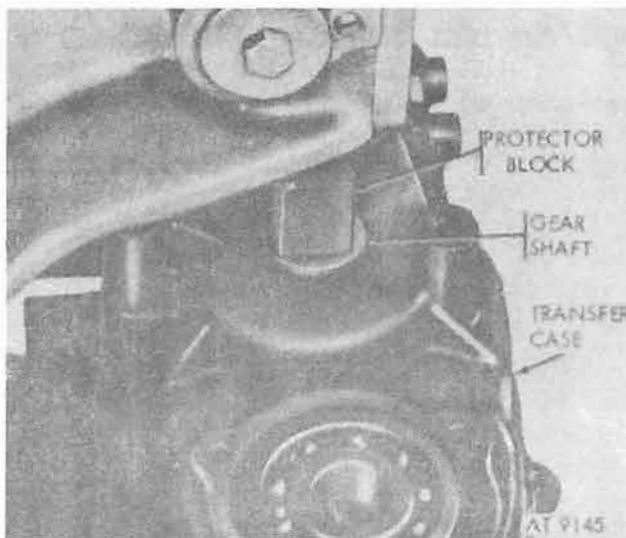
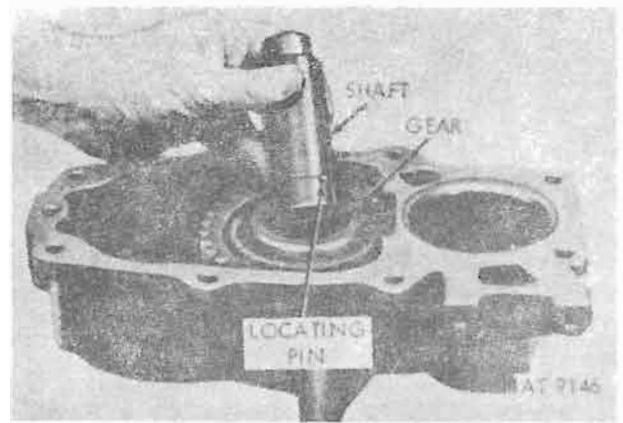
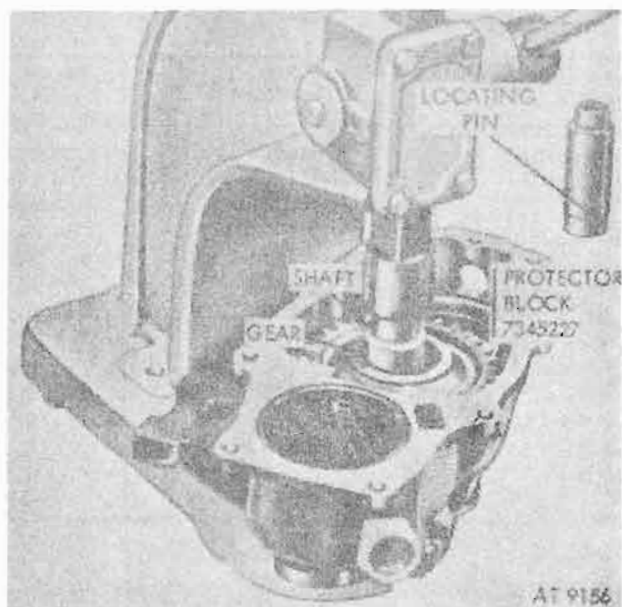

Figure 8-12. Pressing intermediate gear shaft from transfer case.
Figure 8-13. Intermediate shaft and gear.
Figure 8-23. Pressing intermediate gear shaft in position.
m. Press transfer intermediate gear shaft from case (fig. 8-12) and remove transfer intermediate shaft and gear from case (fig. 8-13).
b. Position intermediate gear in transfer case and then position shaft in case so that locating pin is alined with case slot. (Refer to fig. 8-13). Use protector block to press shaft into position (fig. 8-23).